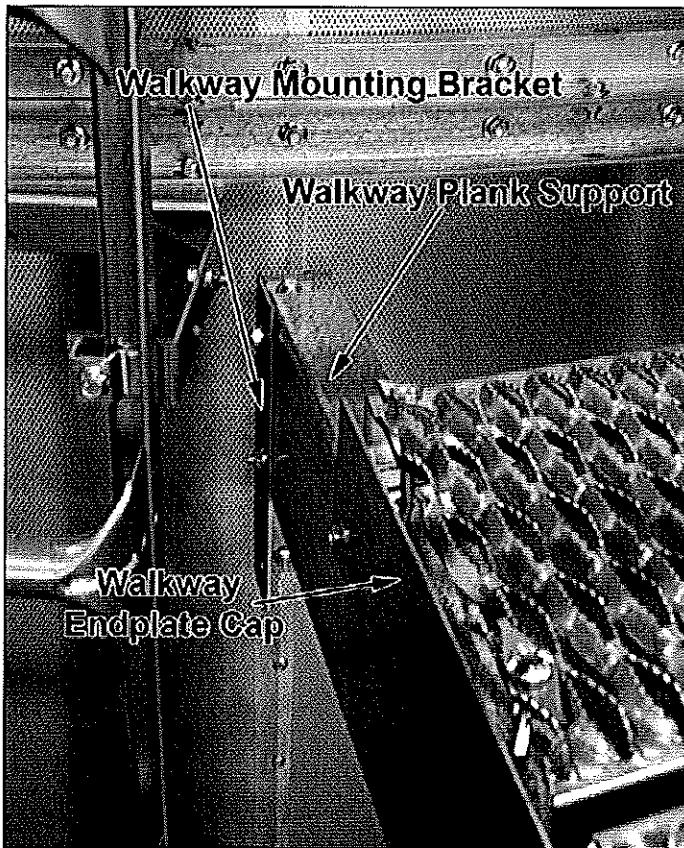

Figure 10
- To install the outside walkway, the (18) walkway mounting brackets are bolted to the screen section that will hold the walkway. The top (9) walkway mounting brackets are where the (8) Walkway Plank Supports (RH) and the (1) Walkway Plank Support (LH) are to be bolted to the screen section. See Figure 10. Use 3/8-16 x 3/4" Hex Washer Head Bolts and Whiz Locknuts on all walkway parts except for the floor panel anchors, which require 5/16-18 x 3" Carriage Bolts, Flatwashers, and Whiz Locknuts.